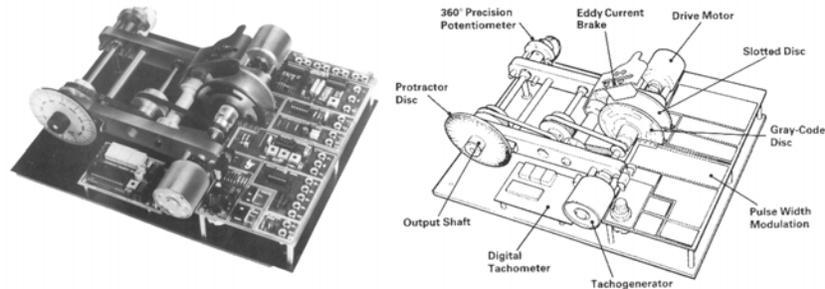

Fig.1: DC Servo motor
- DC servo motor setup (Fig. 1)